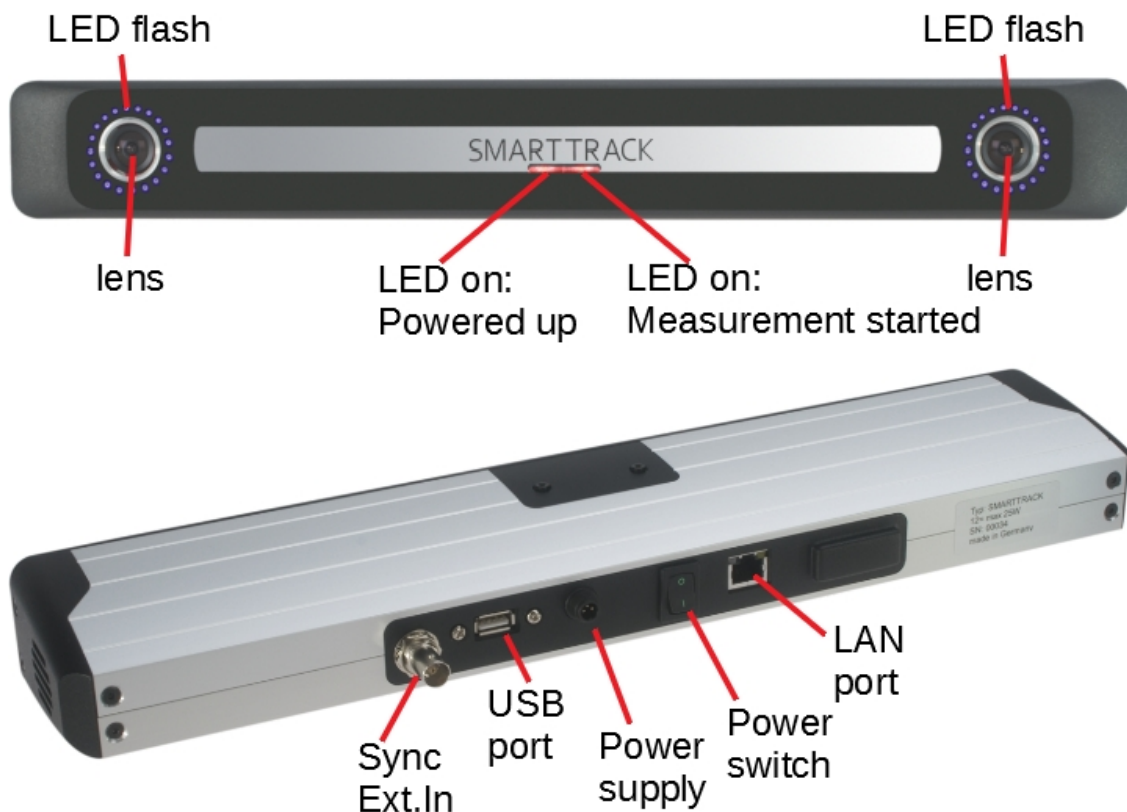
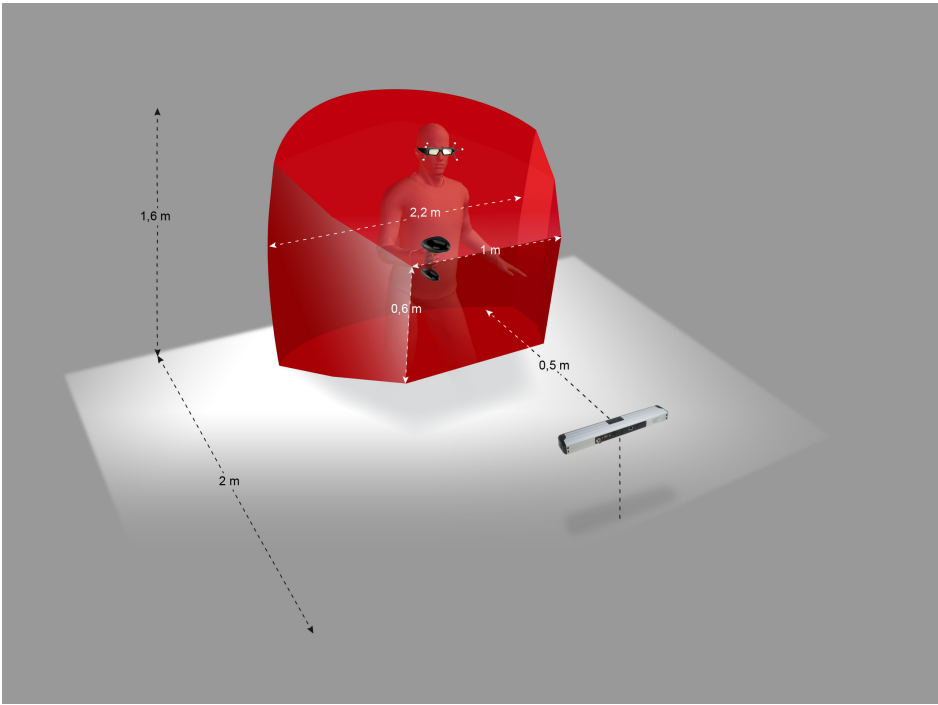
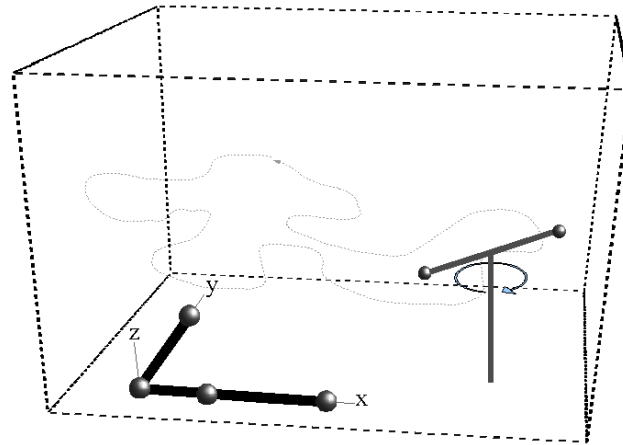

Figure 4.15: *SMARTTRACK2* - Front & Back view
Figure 4.16: 3D Visualization of the tracking volume
Figure 5.5: Room calibration process
**Description** The *SMARTTRACK2* is a fully integrated stand-alone infrared optical tracking system (see figure 4.15 on page 38). It is designed to be used in small volumes of approx. 2m3. The typical tracking volume of the *SMARTTRACK2* is illustrated in figure 4.16 on page 39.
The first step to perform a room calibration is to place the '*calibration angle*' inside the tracking volume (i.e. into the FoV of the IR cameras or **SMARTTRACK2/3/M**), see figure 5.5 on page 46. At least two IR cameras (i.e. both cameras of the **SMARTTRACK2/3/M**) have to see all markers of the '*calibration angle*'. The two markers of the '*wand*' should be visible to all IR cameras.
Now move the '*wand*' gently in all possible directions (up/down, left/right, back/forth) and additionally rotate it within the measurement volume (also refer to figure 4.16 on page 39) in order to generate a virtual point cloud. If possible, try to walk around to maximize the point cloud in all dimensions (see figure 5.5 on page 46).